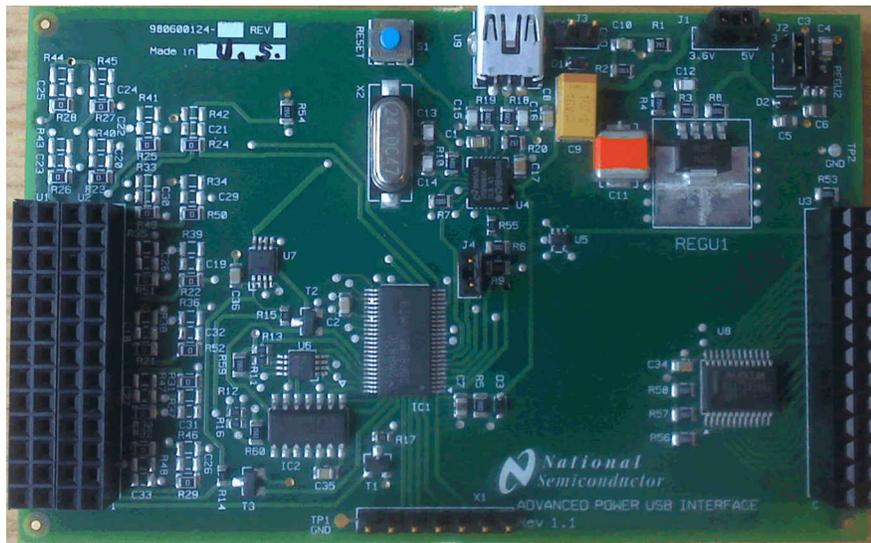

Figure 5-2. USB2PWI Interface Board
- USB2PWI interface board, as shown in Figure 5-2